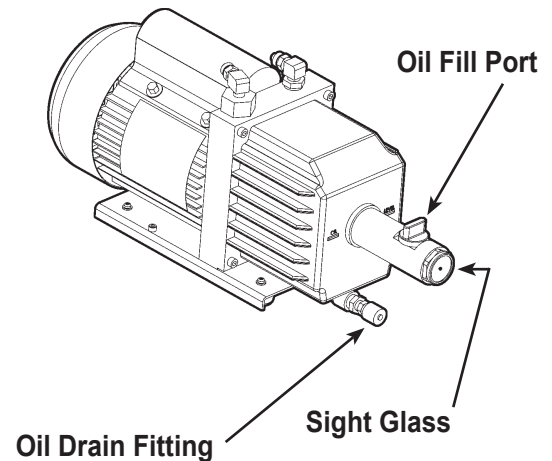

Figure 17
3. Refer to Figure 17, and remove the brass plug from the vacuum pump's oil fill port. (The pump drains faster when vented.)
5. Attach the flexible tube and cap to the oil bottle; pour five (5) ounces of vacuum pump oil into the fill port.